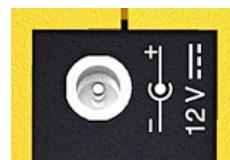

Figure 3.
Connect the DC power adapter (2) to the equipment through the power connector on the left side panel (see figure 3).